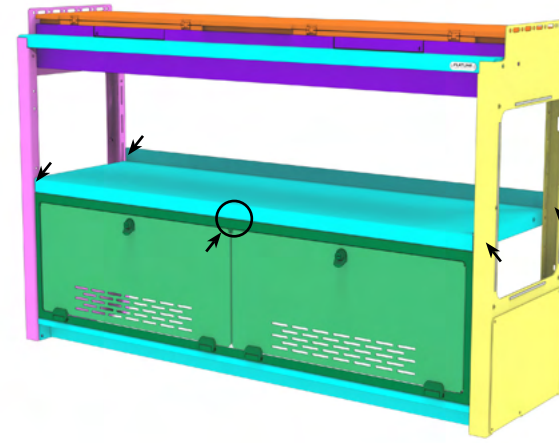
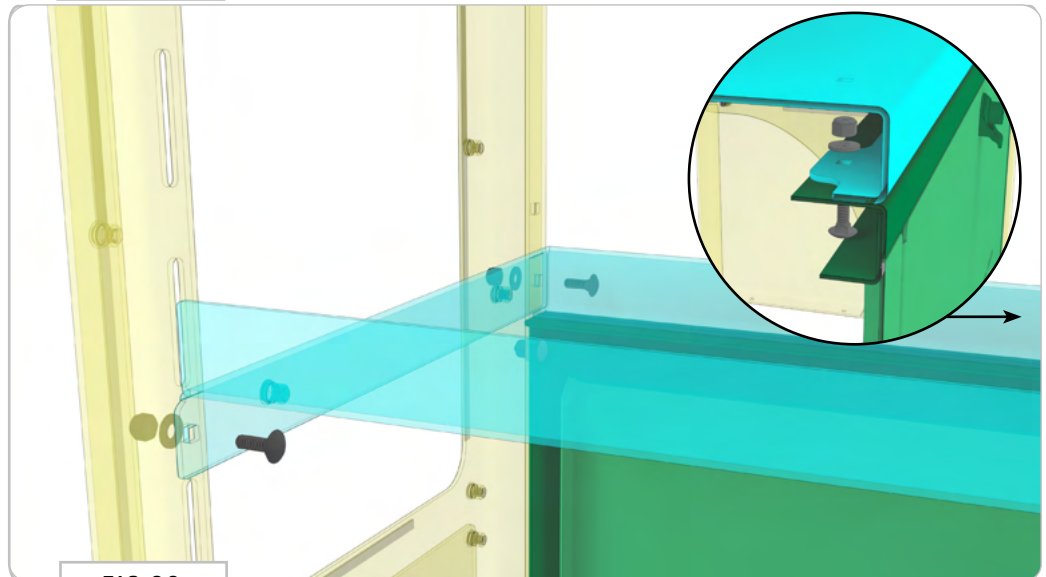

FIG 27
FIG 28
**2.11 Install Cabinet Shelf Assembly:** Attach the **Cabinet Shelf Assembly** to the **Left and Right Cabinet Ends** using **(4) 1/4-20 x 0.75 Square Neck Carriage Bolts, Flat Washers and Nylon Locknuts (FIG 27)**. There's a final mounting location in the middle of the unit that will take **(1) 1/4-20 x 0.75 Square Neck Carriage Bolt, Flat Washer and Nylon Locknut** to finish out this step **(FIG 28)**.